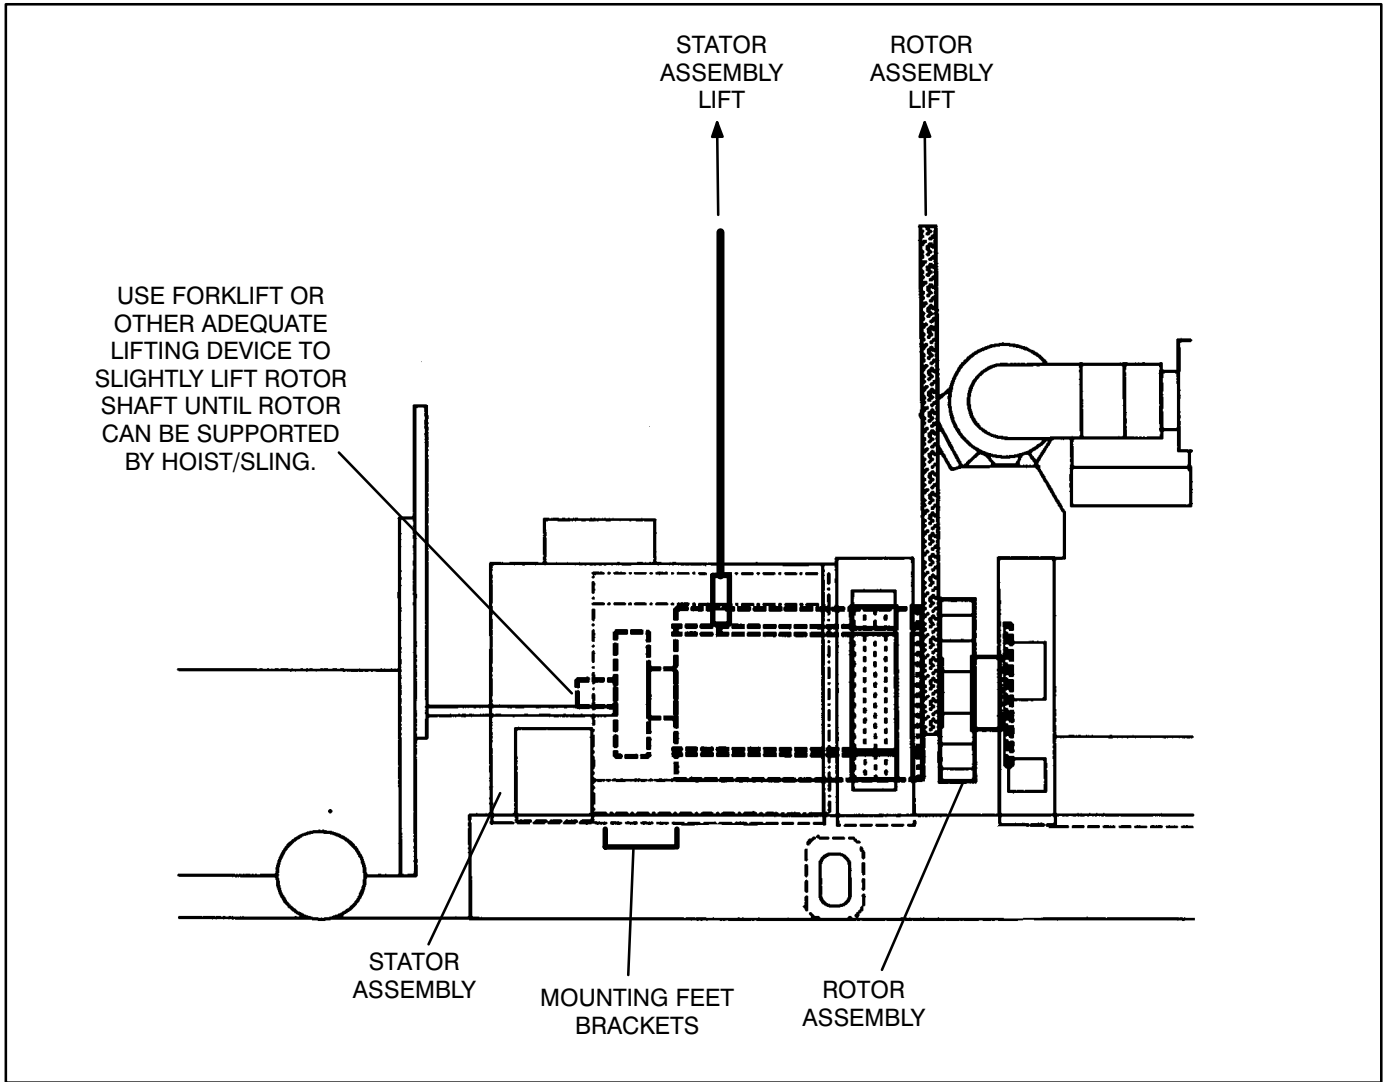

FIGURE 4-8. REMOVING STATOR ASSEMBLY
20. Using a forklift, position a lifting bar of the forklift (inside and in-line with the generator) under the rotor shaft. Lift the rotor shaft slightly so that rotor is not resting on inside of stator assembly. See Figure 4-8. (Use V-block secured to lifting bar or straps to secure rotor shaft to forklift bar.)
19. Secure the rotor assembly drive disc to the flywheel using appropriate capscrews and flat washers. Tighten fasteners to 75-85 ft-lbs. (88-95 N-m) torque. Do not allow rotor assembly to hang on engine flywheel. (Refer to Figure 4-8)
21. Using a forklift, position a lifting bar of the forklift (inside and in-line with the generator) under the rotor shaft. Lift the rotor shaft slightly so that rotor is not resting on inside of stator assembly. See Figure 4-8.